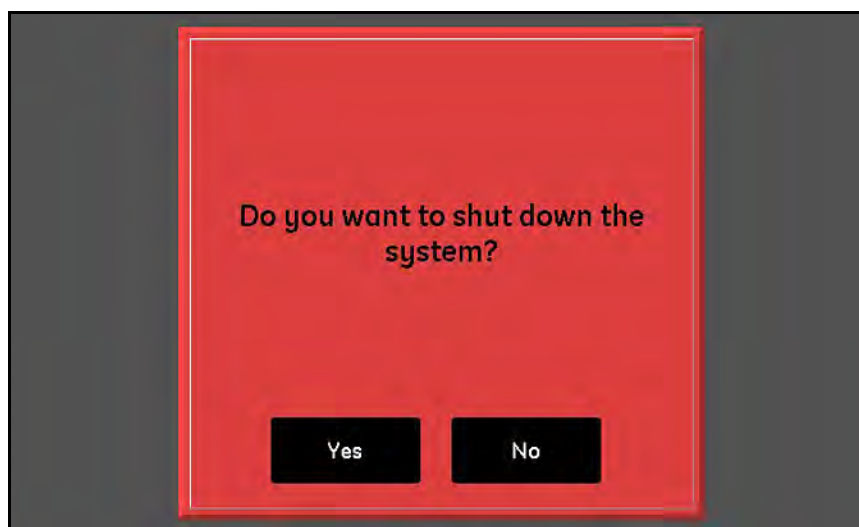

Figure 31: Shut Down Confirmation Screen
3. At the confirmation screen shown in *Figure 31* below, tap the **Yes** button to shut down the unit or tap the **No** button to cancel the request.
To shut down the moisture.IQ system, tap the **Shut Down** button. Then, tap either **Yes** or **No** at a confirmation screen similar to the one shown in *Figure 31* on page 35.